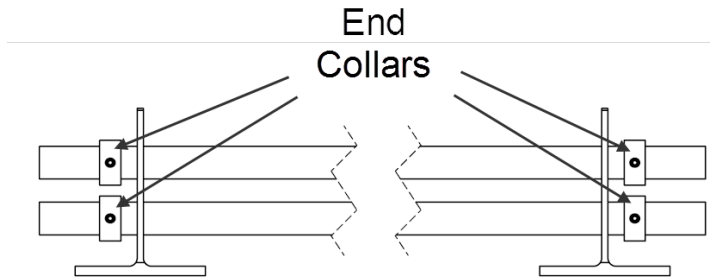

Fig. 3
2. If using on a system with **Internal Coupling (PP86)**: End Collars should be placed over each end of each run of pipe (Fig. 3). Place the End Collar over the pipe and tighten the set screw until it no longer slides. The End Collar should be within 1" of the snow guard bracket, spacing is 1/8" for every 10' of pipe. For example, if the run of snow guards is 80' then the End Collar should be 1" outside the bracket.